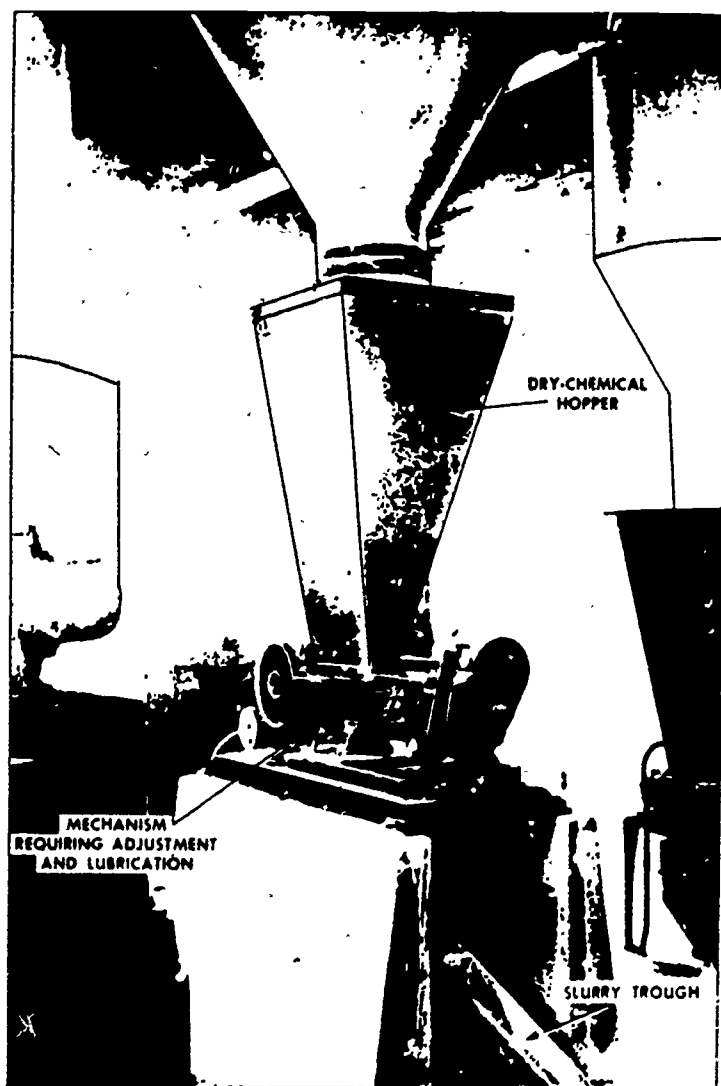
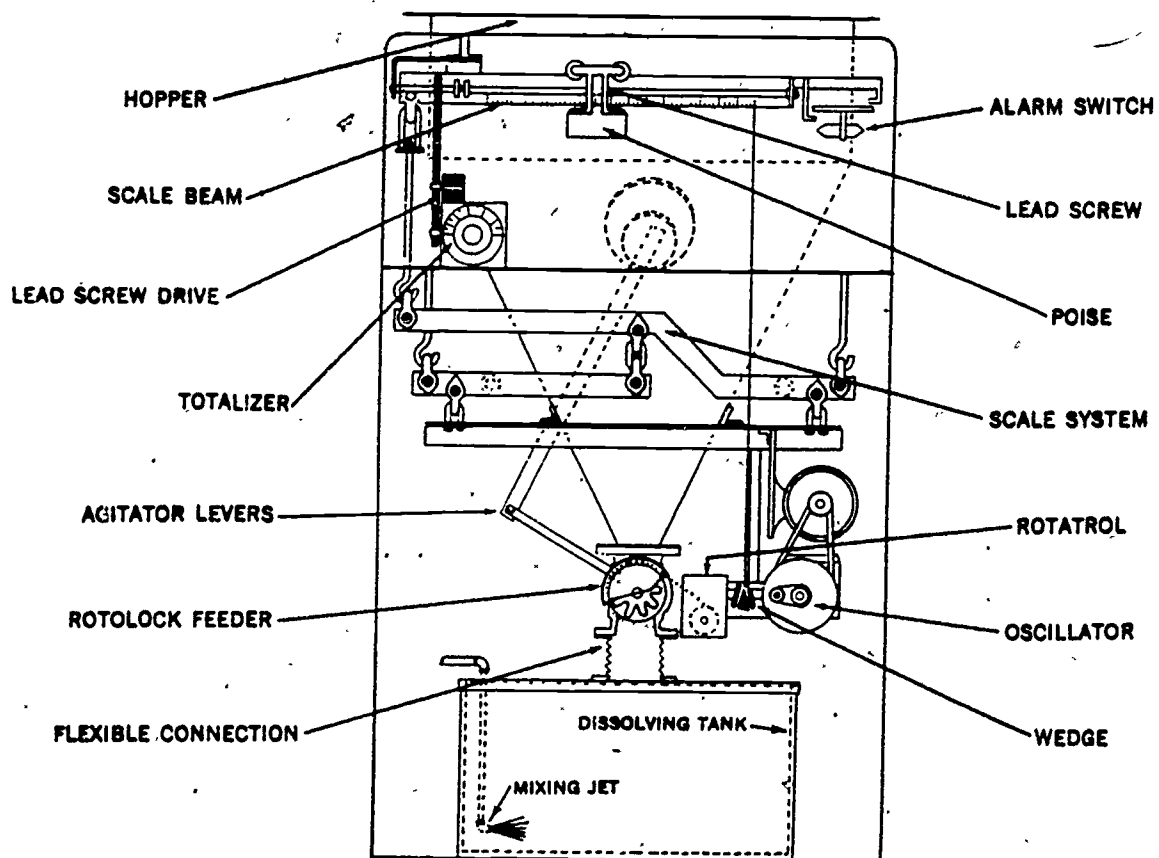

Figure 3. Dry Chemical Feeder Installation
Figure 4. Loss-in-Weight Gravimetric Dry Chemical Feeder
Dry chemical feeders may be of either the volumetric (see figure 3) or the gravimetric loss-in-weight type (see figure 4).
10. What provision is incorporated in dry chemical feeders to insure a continuous, even flow of the chemical out of the hopper? (See figure 3.)